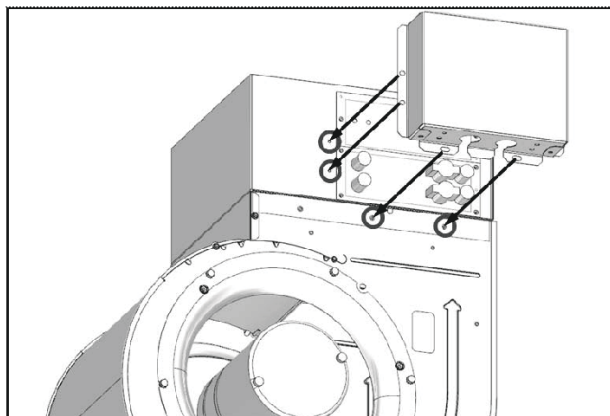

Fig. 14 – Mount Heater Element Cover to Blower Collar
4. Mount protective cover to blower collar using four (4) screws as shown in Fig. 14.